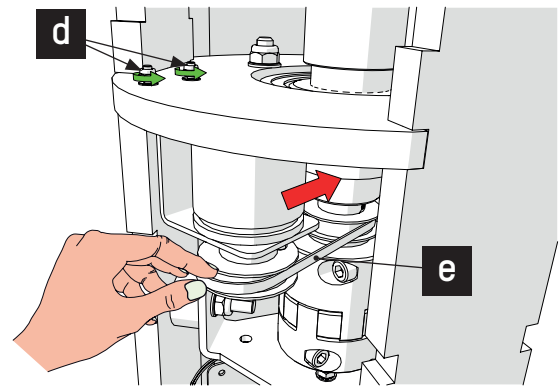

Fig. 34 - Belt replacement (Trigger)
4. Unscrew the two locknuts **(d)** so that the belt **(e)** can be completely slackened and separated from the two pulleys (Fig. 34);